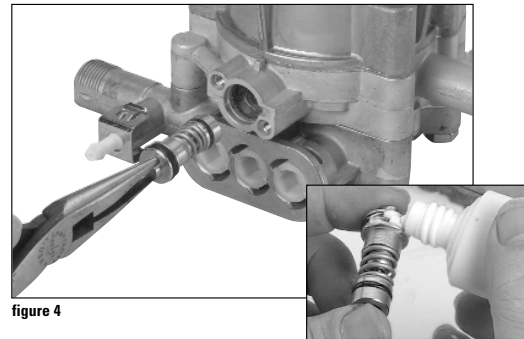

figure 4
3. Pull out bypass valve. (figure 4)
6. Grease only large O-rings with lithium grease. (figure 4 inset)